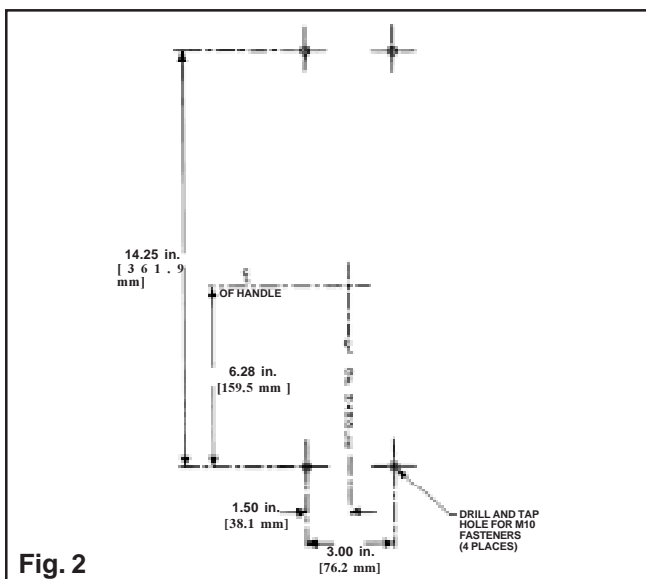

Fig. 2
1. For those applications where mounting is on a flat surface of the customer's equipment, drill and tap mounting bolt holes according to the drilling plan in Fig. 2. For handle escutcheon cut out plans refer to Fig. 3.